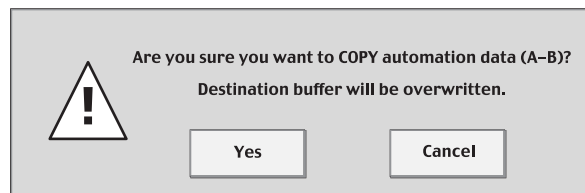

Figure 3
- 1** Whenever creating successive passes of automation data, it's a good idea to set up a level of undo so that you can instantly return to the previous pass if you are dissatisfied with the new data you just added. The first pass was written in buffer A, so we'll begin by copying it into buffer B and then work in that buffer. To do so, press and hold down the "A" button for a couple of seconds until it begins blinking; then, while continuing to hold it down, press the "B" button. The following dialog will appear: (See Figure 3)